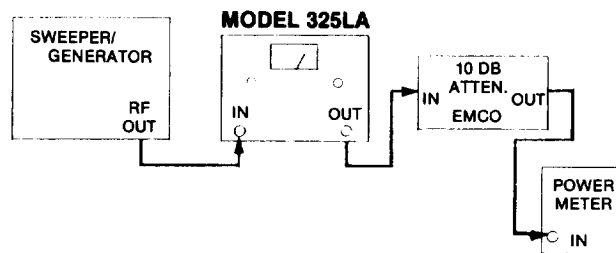

Figure 4-2 RF Output Power Test Set-Up
- a. Set-up the test equipment as shown in Figure 4-2.